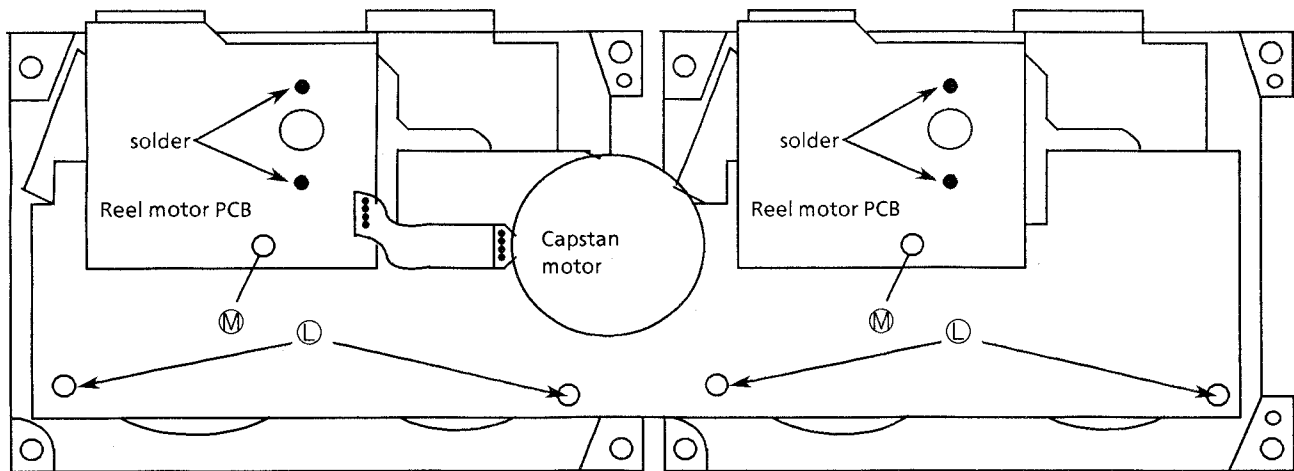

Fig. 9 Rear view of the cassette mechanism
- (1) Remove the mechanism assembly.
- (2) Remove the mechanism controller PC Board.
- (3) Remove the screws \textcircled{M} fixing the reel motor PC Boards (Fig.9).
- (4) Unsolder the reel motor terminals.
- (5) Remove the PC Board.
- (3) Remove the reel motor PC Boards.
- (4) Remove the 4 screws \textcircled{L} fixing the bracket on which the capstan motor is installed (Fig. 9).
- (5) Remove the bracket and the belts.
- (6) Remove the flywheel .
- (3) Remove the reel motor PC Board.
- (4) Remove the 4 screws \textcircled{L} fixing the bracket (Fig. 9).
- (5) Release the hooks fixing the bracket and remove the capstan motor with the bracket.
- (6) Remove the 2 screws fixing the motor on the bracket and remove the motor from the bracket.